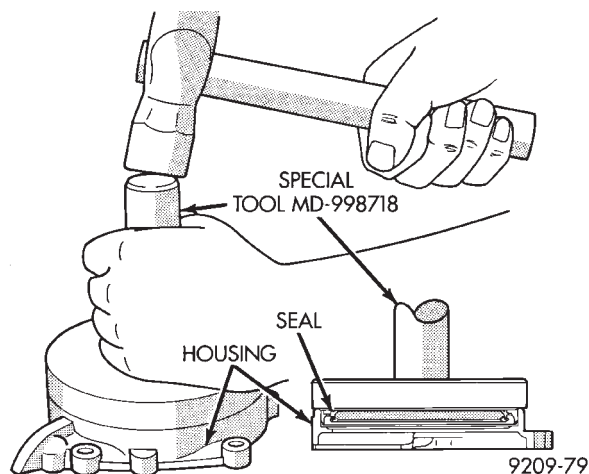

Fig. 73 Install Crankshaft Rear Oil Seal
(1) Install rear crankshaft oil seal in housing with Special Tool MD998718 (Fig. 73).